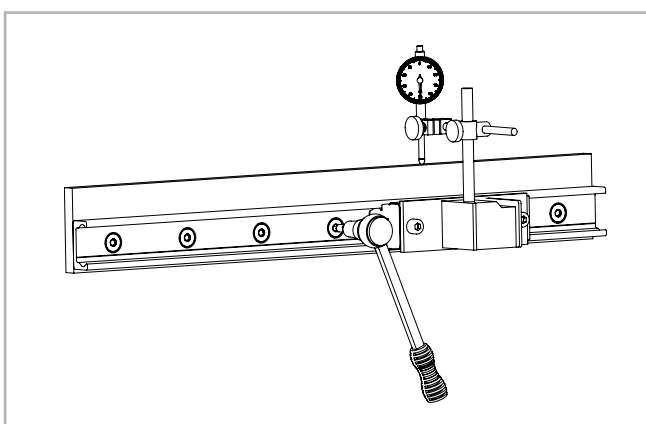

Fig. 154
(2) Install a dial indicator so that the offset of the rail to a reference line can be measured. Now position the slider in the center of the rail and set the dial indicator to zero. Move the slider back and forth between each two hole spacings and carefully align the rail. Fasten the three center screws of this area now with the specified tightening torque, see pg. fig. 154.
(3) Now position the slider on one end of the rail and carefully align the rail to zero on the dial indicator.